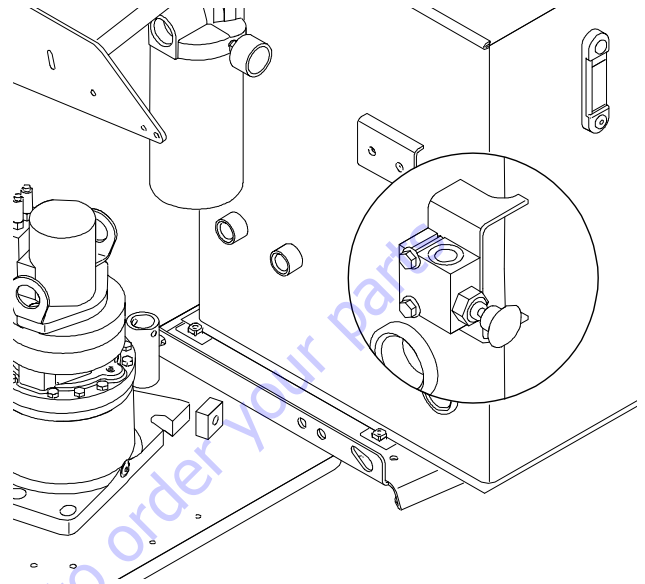

Figure 4-16. Releveling Valve
A pull type control valve allows the operator to adjust the upright level cylinder if the upright is not 90° (vertical) relative to the chassis (Refer to Figure 4-16.). This valve is located in the tank compartment area.
3. Pull and hold the red releval knob located next to the main control valve. Refer to Figure 4-16.